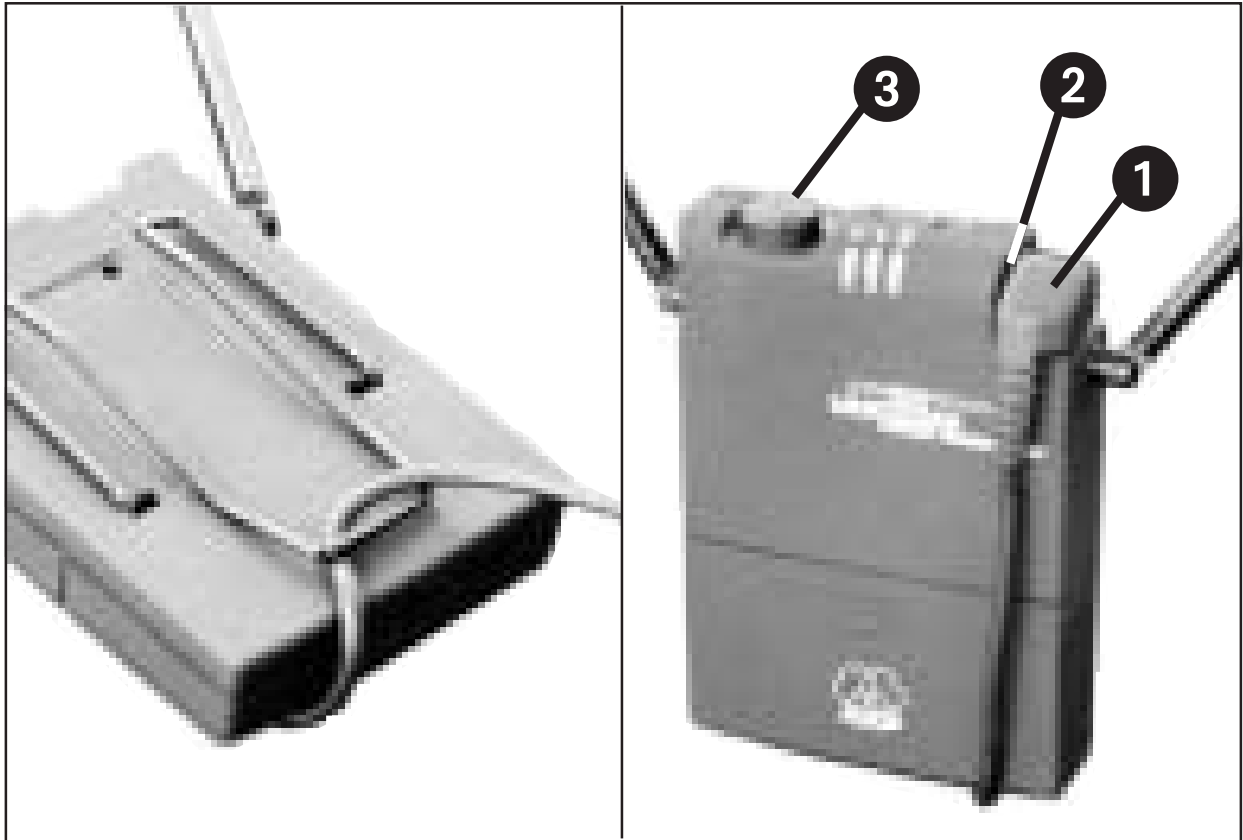
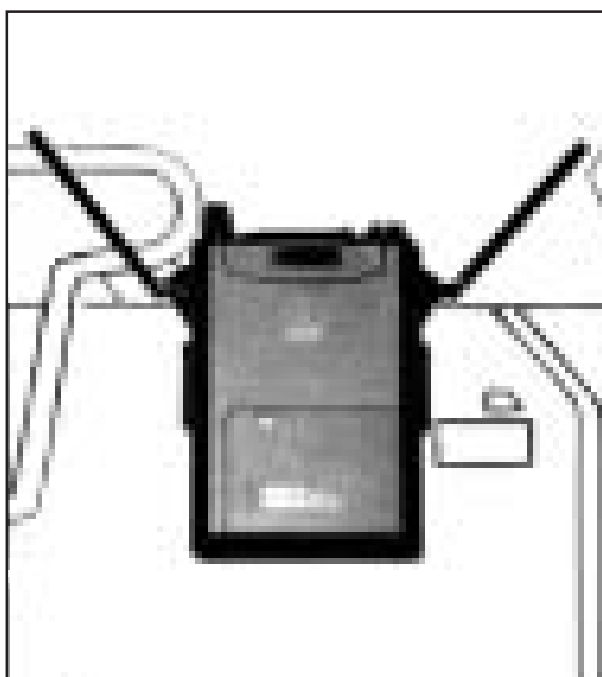

Fig. 8: connecting headphones.
Fig. 9: Optimum antenna alignment
1. To relieve the connection of the strain of the headphone cable, pass the headphone cable under the belt clip as shown in fig. 8 (left).
2. Plug the .1-in. jack plug (1) on the headphone cable into the output jack (2) on the receiver.
3. Use the volume control (3) to set the desired volume level for the headphones.
4.3 Aligning the Antennas (Fig. 9)